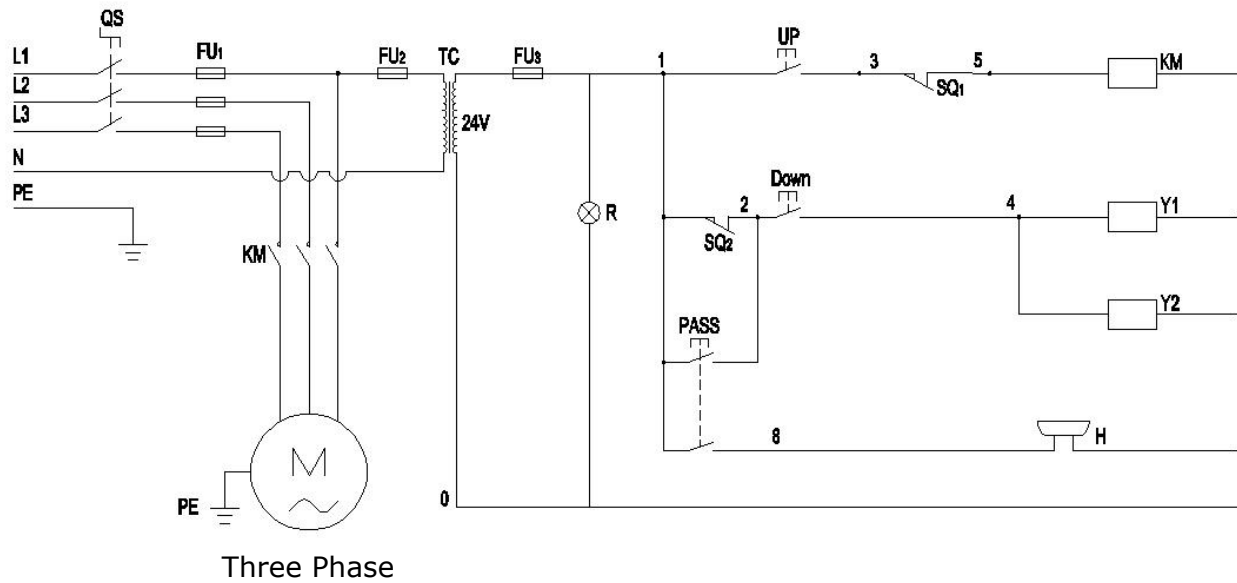

Fig.14
2.2 Circuit Diagram (see Fig.14)